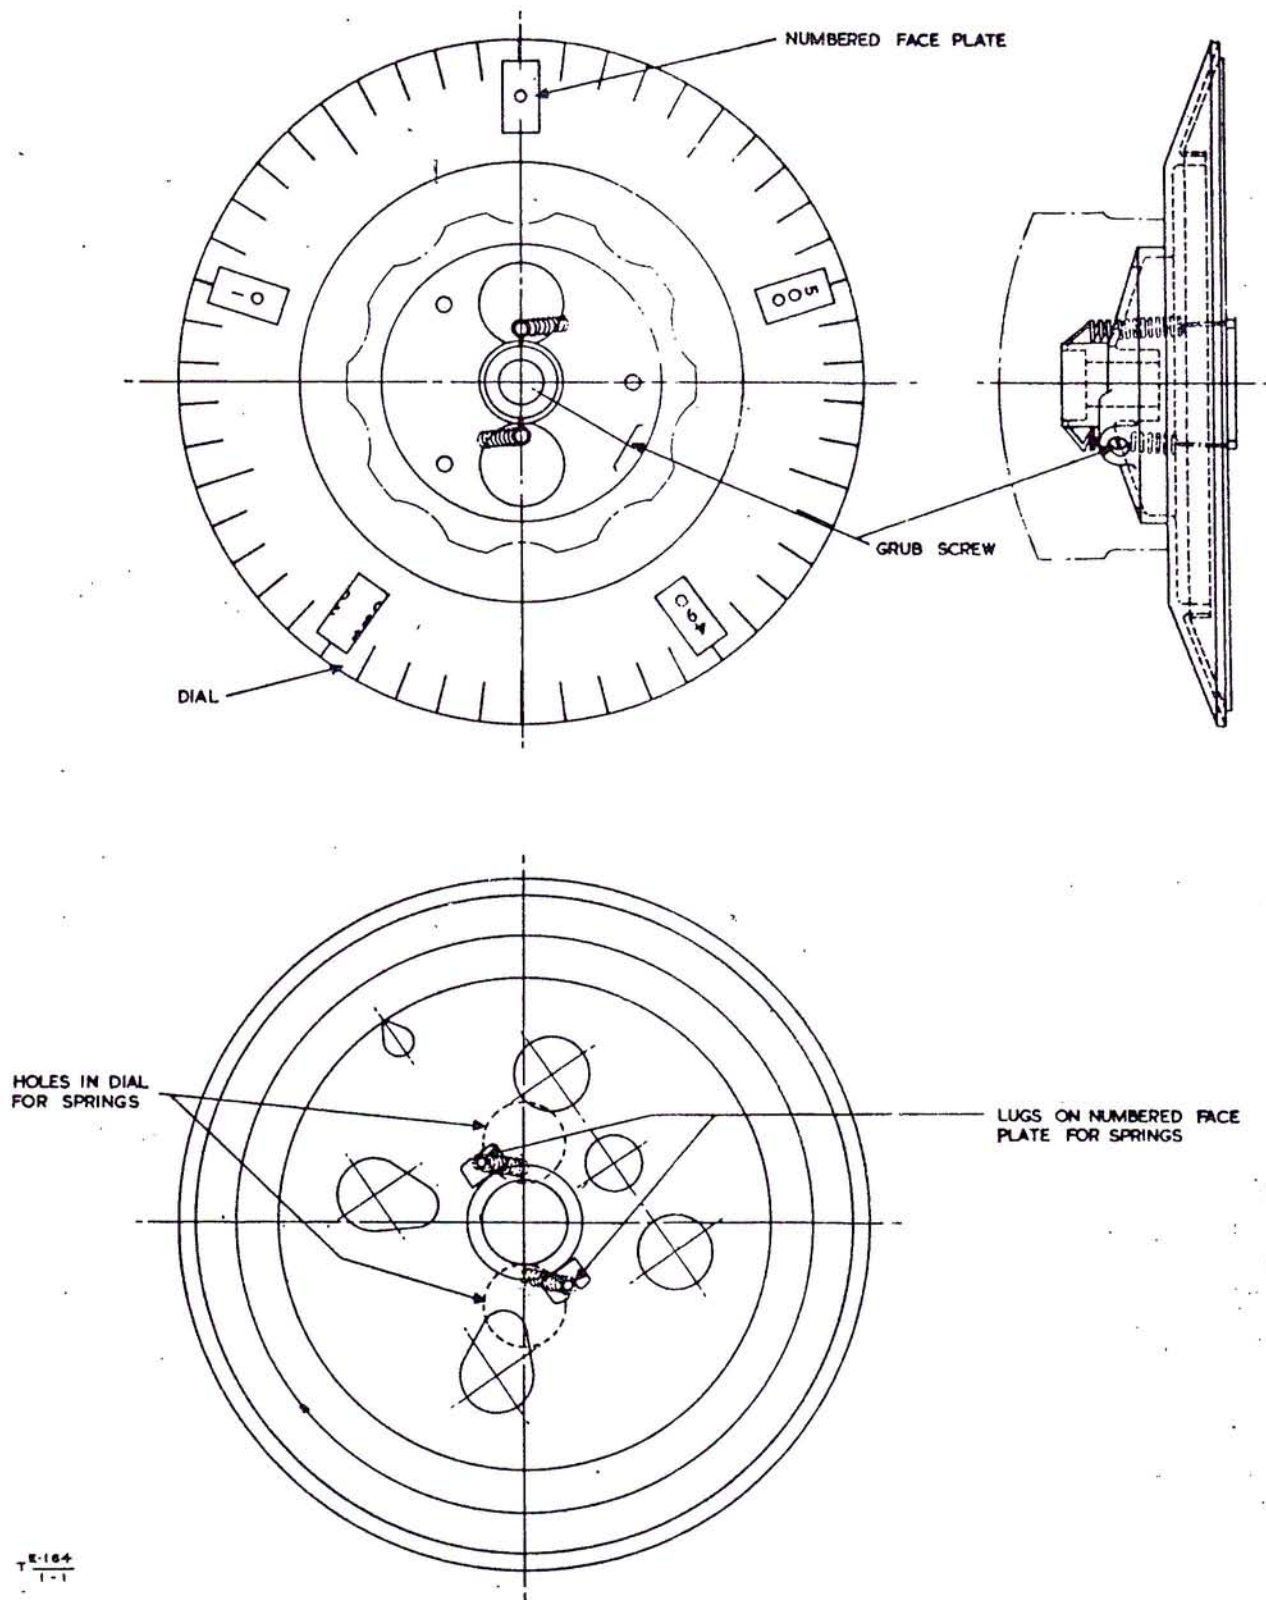

Fig 1 - Slow motion drive
(Figs 1 and 2)
3. Remove the dial and ganged capacitor assembly as detailed in para 2. The correct relative positions of the two parts of the dial are shown in Fig 1. Care must be taken to ensure that, with the dial window displaying the 0 at 11 o'clock, the two retaining springs are in the position shown in Fig 1 and the dial grub screw is at 3 o'clock, when seen from the front of the dial. The two springs must not be above the opposite sides of the holes in the dial, which position will show a 0 in the dial window but with the grub screw lying almost opposite the 0. If assembled incorrectly the springs will be stretched against the sides of the holes instead of travelling clockwise across the space provided.